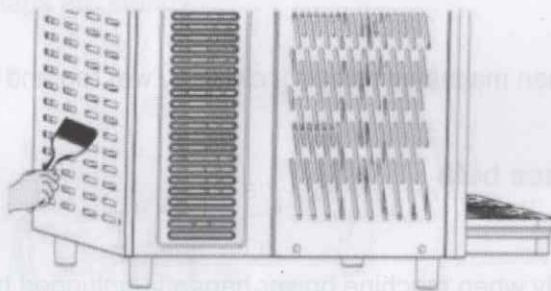

Fig.21
3. Dismantle safety protection parts. Brush dust from condenser surface with dry brush as Fig21